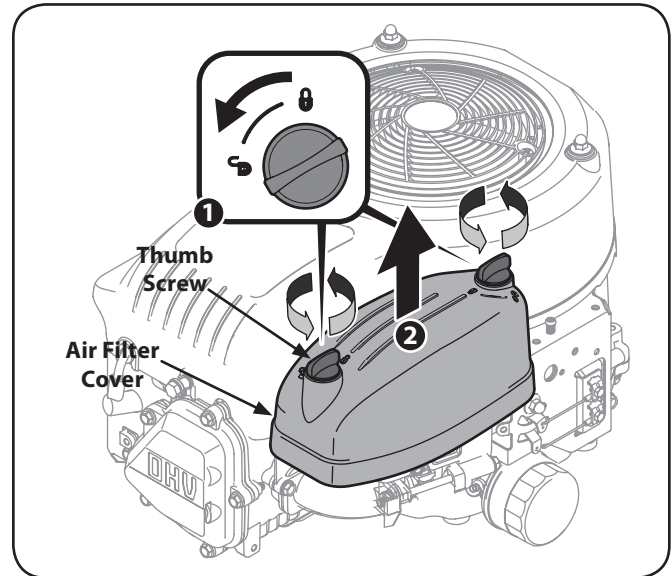

Figure 6-4
2. Remove the air filter cover. See Figure 6-4.